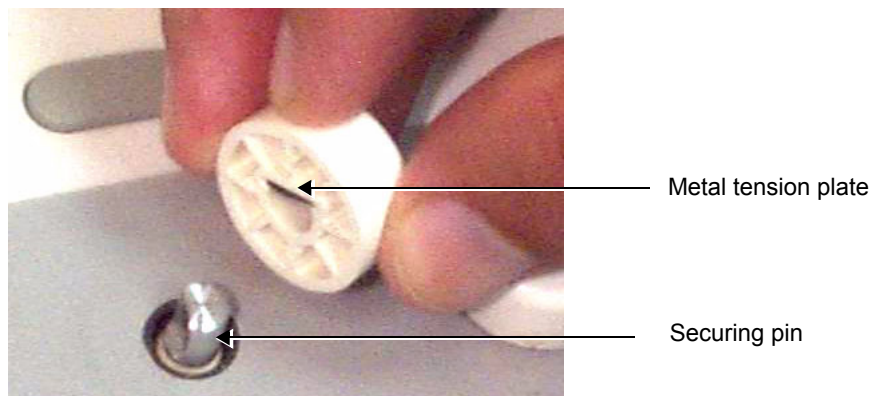

Figure 8-29 Tension Plate Fitted in Centre of Knob
- 4.) Carefully take out the metal tension plate from the centre of the knob (refer to Figure 8-29 on page 8-31), before discarding the defective knob. **Do not** discard the tension plate.
- 1) Using a new rotary knob, insert the metal tension plate (removed in step 4 above) into the centre of the knob, aligning the plate correctly with the notches on each side of the hole. The plate, which is slightly curved (to provide tension), should be positioned with the curved surface facing towards the center of the hole, as shown in Figure 8-29 below.
- 2) Carefully place the new rotary knob into position on the securing pin, taking care that the tension plate remains in position inside the knob, while aligning the core of the knob base with the flat-sided notch on the securing pin - see Figure 8-29, above.